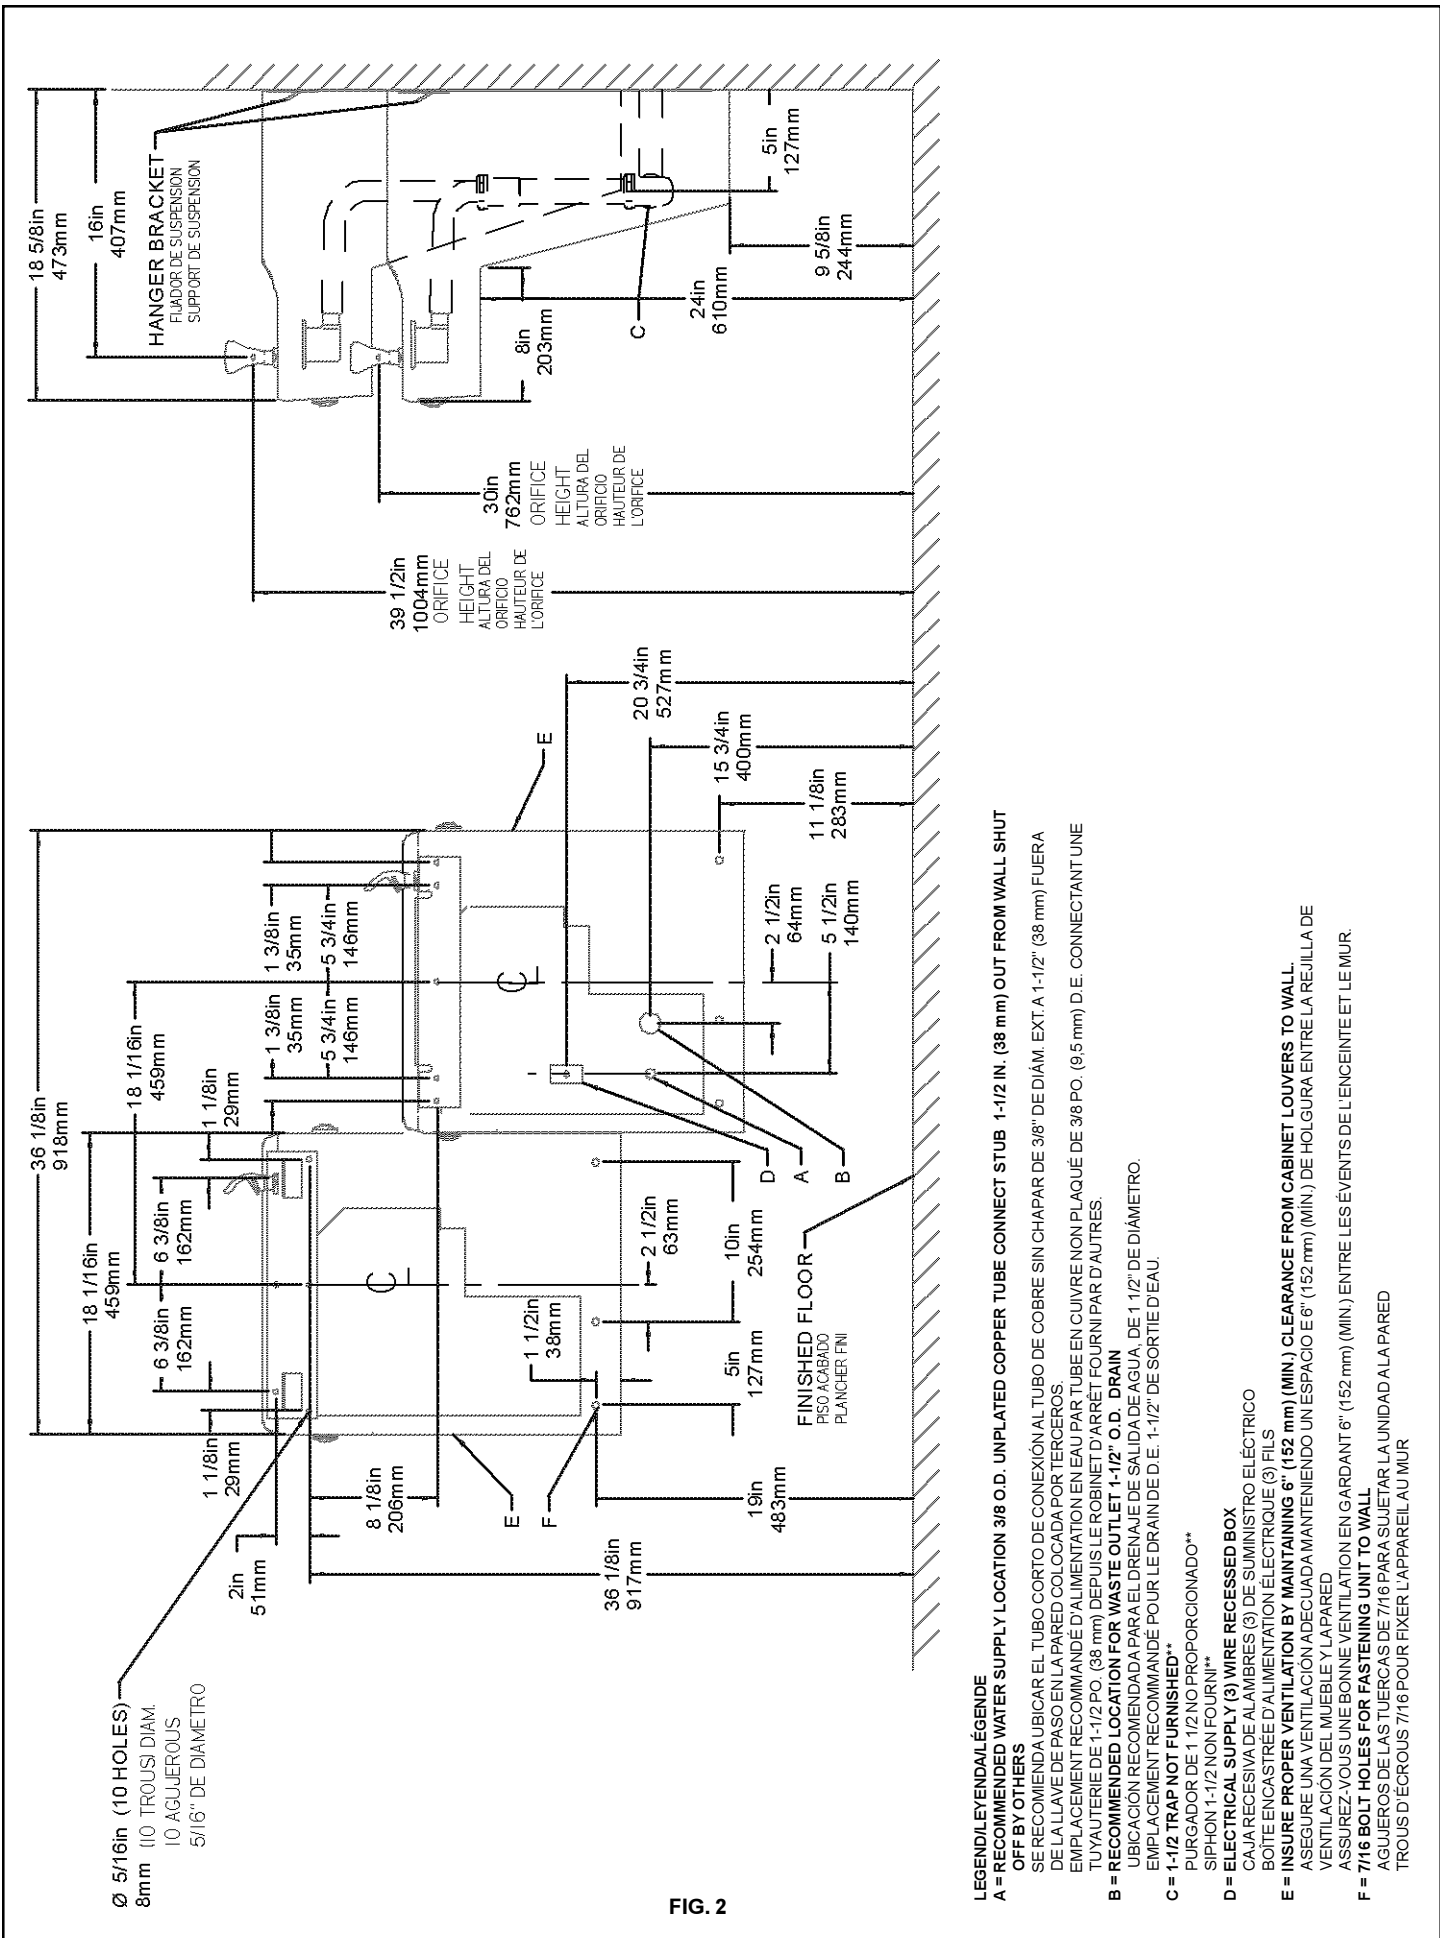

FIG. 2
- 1) Remove hanger brackets fastened to back of cooler by removing one (1) screw.
- 2) Mount the hanger brackets and trap as shown in Figure 2.